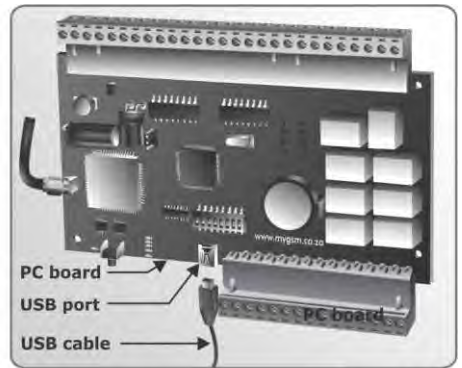

FIGURE 12.
6. Connect the USB cable onto the USB port as shown in Figure 12 and follow the programming instructions in Section 12.